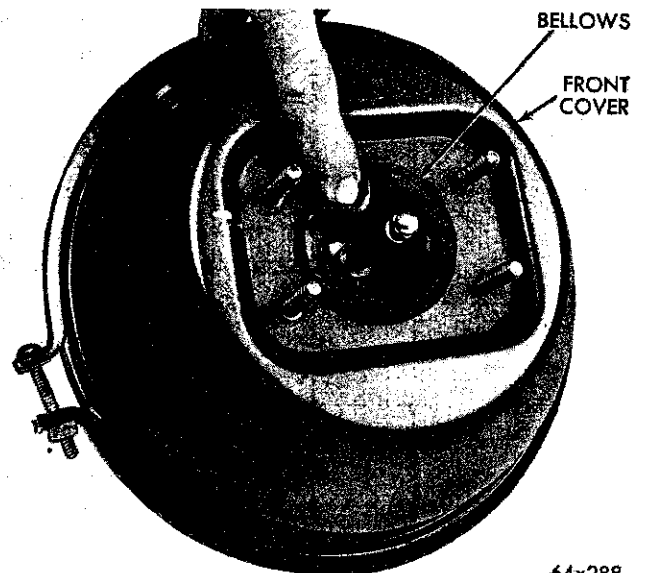

Fig. 26—Unseating the Bellows Seal
(5) Remove the filter cover and filter.
(6) Working from the front of the unit, push the outer lip of the bellows assembly into the vacuum chamber (Fig. 26).
(7) Remove the clamp band securing the front to the rear housing.